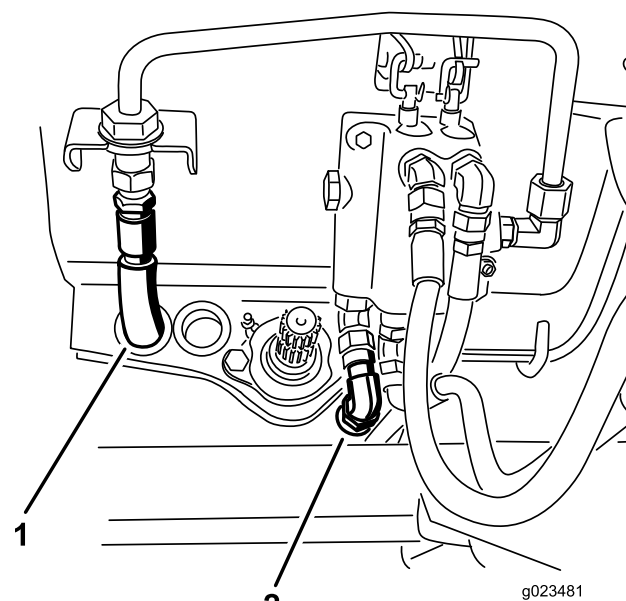

Figure 28
17. Connect the hydraulic-pressure hose to the valve hard line and the tank hose to the valve (Figure 28).